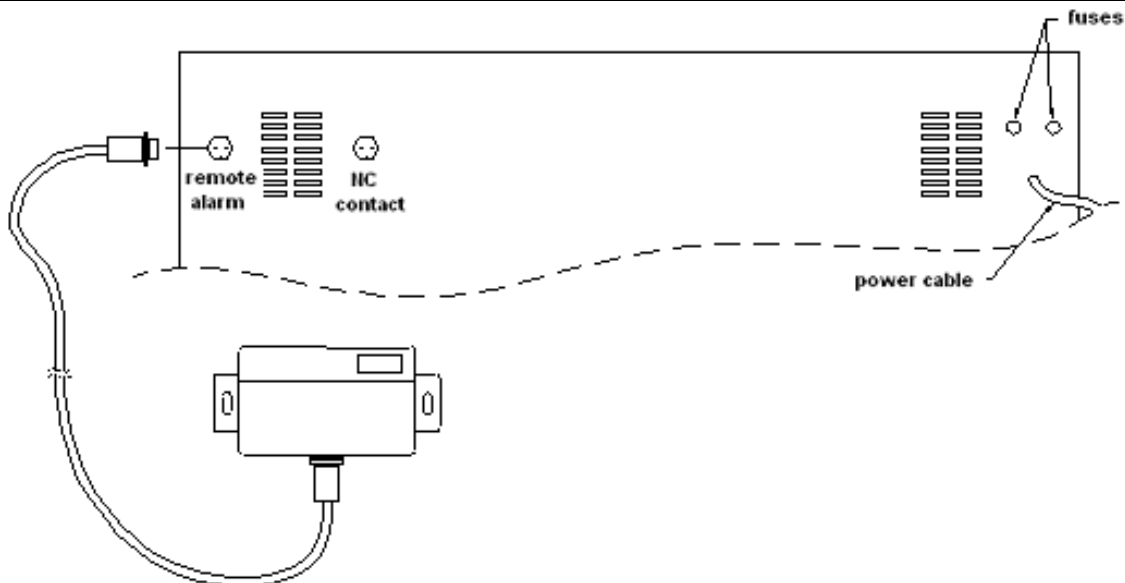

Figure 8
- Ensure that power led is turned on (See Figure 8). Power led is on when energy is supplied to the GSM module. SMS led starts to flash while the module sending SMS.